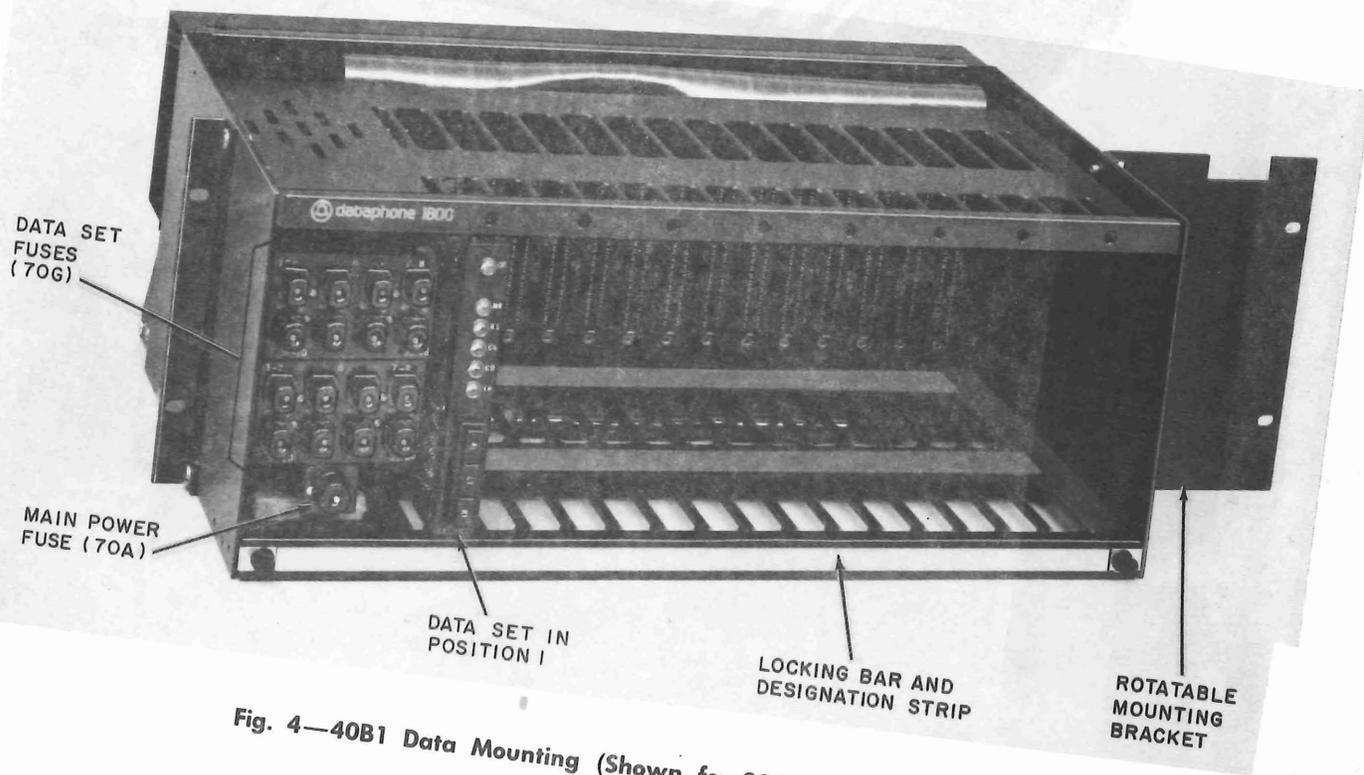

Fig. 4—40B1 Data Mounting (Shown for 23-Inch Mounting)
2.07 The 40B1 data mounting (Fig. 4) is primarily for use with DS 202T. Every slot in the mounting is wired, making it possible to install up to 16 single-width data sets (without reverse channel) or eight double-width data sets (with reverse channel).